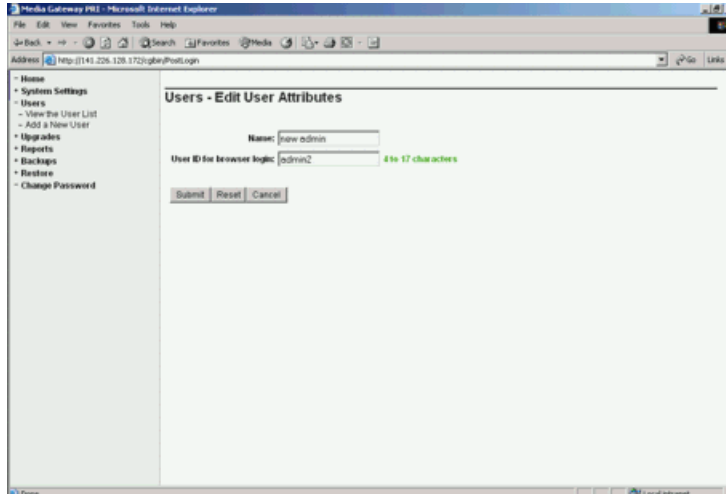

Figure 29: Edit User Attributes window
5. To modify user attributes, click the user name you want to modify. The window shown in Figure 29: Edit User Attributes window on page 113 appears.